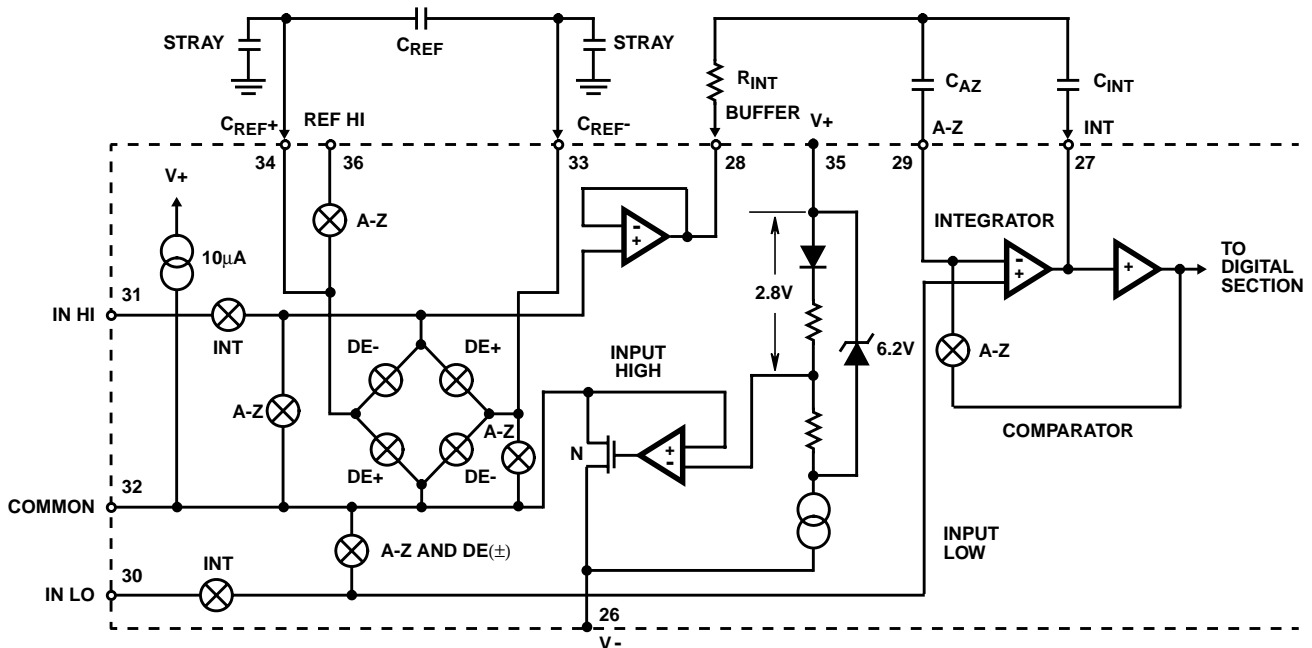

FIGURE 3. ANALOG SECTION OF ICL7116 AND ICL7117
Figure 3 shows the Analog Section for the ICL7116 and ICL7117. Each measurement cycle is divided into three phases. They are (1) auto-zero (A-Z), (2) signal integrate (INT) and (3) de-integrate (DE).